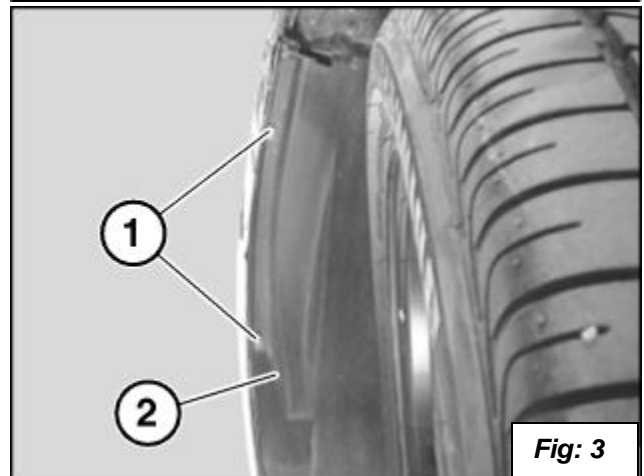

Fig: 3
5. On the left side remove the screws in location (1) and pry out the inner fender (2) to gain access to the two screws you will remove in the next step. See figure 3.